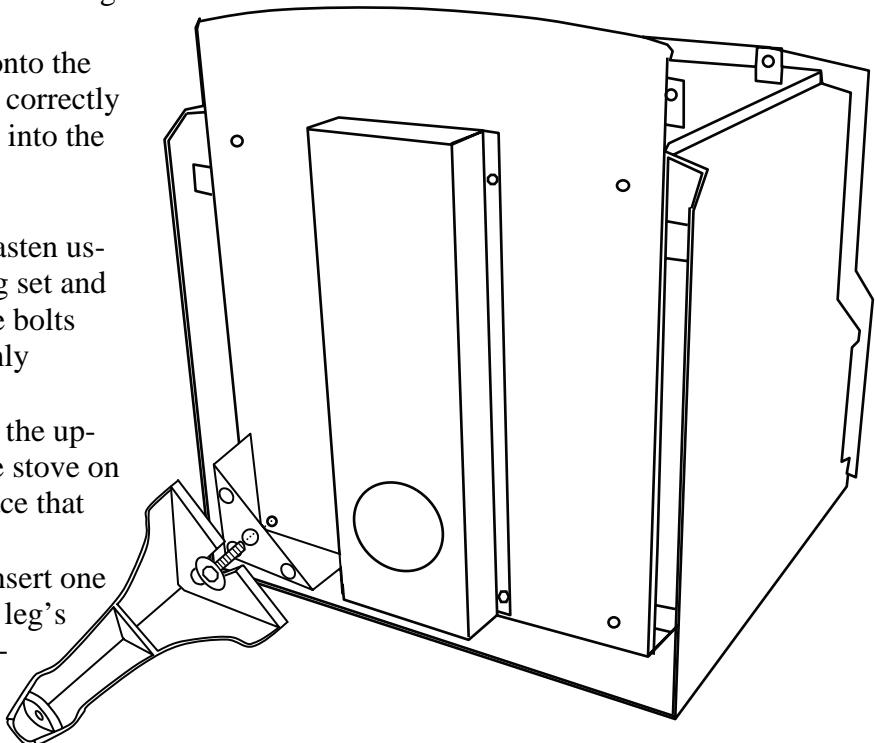

Figure 1
Step 3: Position one leg at each corner and fasten using the extra large washers provided in the leg set and the long bolts provided in this spacer kit. (the bolts provided in the leg set will be too short. Firmly tighten each bolt. (See Figure 1)
Step 2: Remove the air box that is bolted onto the bottom of the stove using a 7/16" wrench. (See figure 1). There is a small amount of gasket glue sealing the air box to the ash drawer cut out, therefore you may need to firmly tug to remove the box once the 4 bolts are removed.